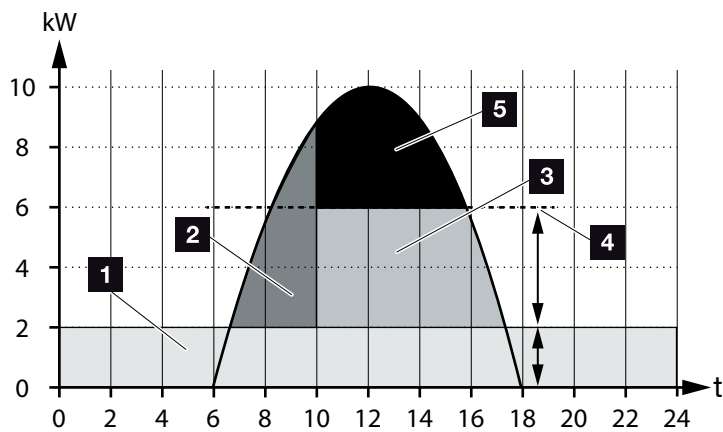

Fig. 56: Control without smart battery control
**Fig. 56** Item 4 shows how without smart battery control, especially when there is high solar irradiation, the generated PV energy remains unused e.g. in the case of limiting to approx. 50% because of the KFW ruling.